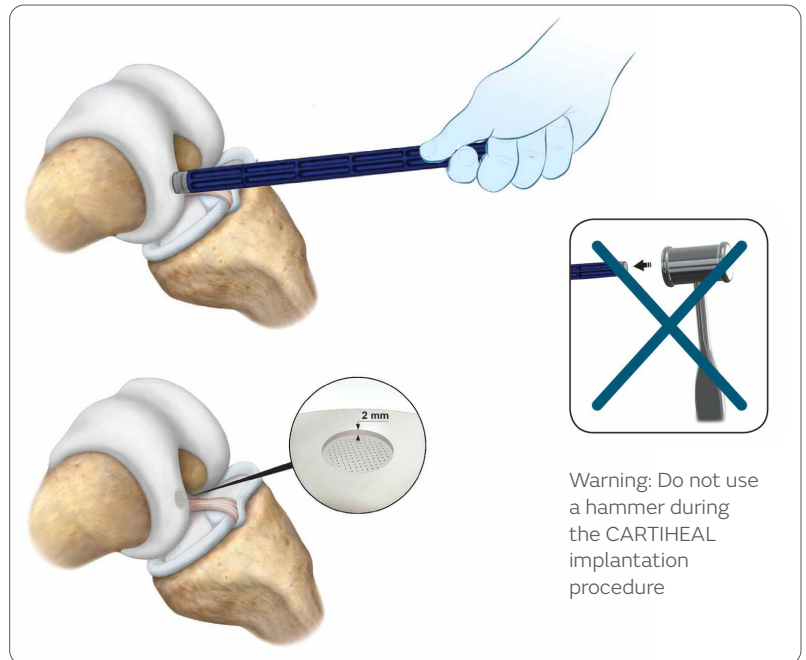

Figure 13
13. Gently push the Tamper to insert the CARTIHEAL AGILI-C Cartilage Repair Implant so its final position is 2mm below the surface of the articular cartilage (**Figure 13**).